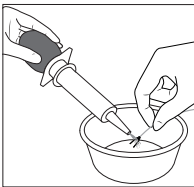

Figure 3
9. Irrigate the probe by squirting sterile saline over the strap assembly until an audible signal is heard from the monitor (See Figure 3). Adjust monitor volume as needed.